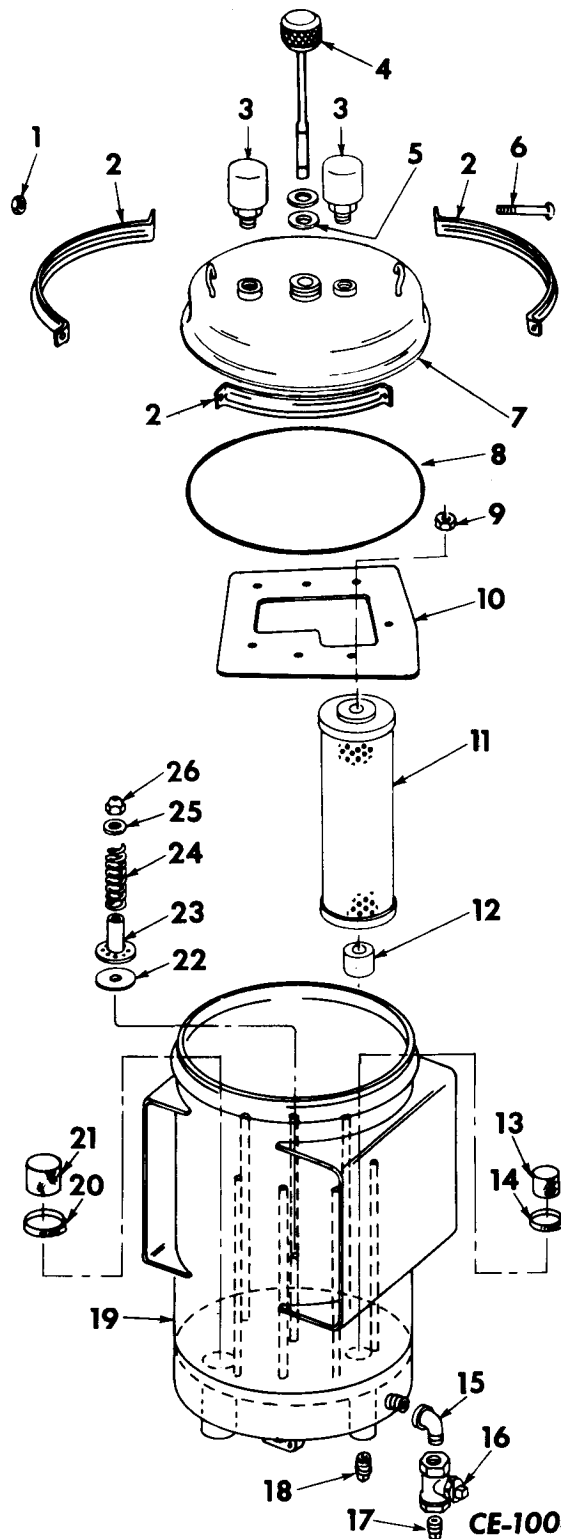

Figure 11-1B
- c. Place a container of sufficient capacity under reservoir drain. Remove drain plug (17, Fig. 11-1B) from drain valve (16). Use a funnel and length of hose to direct draining oil to container. Open drain valve (16). When oil has stopped running, close valve and remove sump drain plug (18) to completely drain remaining oil.
Remove relief valves (3, Fig. 11-1B) from cover (7). Remove nuts (1) from bolts (6) and remove cover clamps (2). Remove
Legend for Figure 11-1B
Thread elbow (15, Fig. 11-1B) onto reservoir and drain valve (16) onto elbow. Replace and tighten drain plugs (17, 18). Install screens (13, 21) in bottom of reservoir and secure with clamps (14, 20).